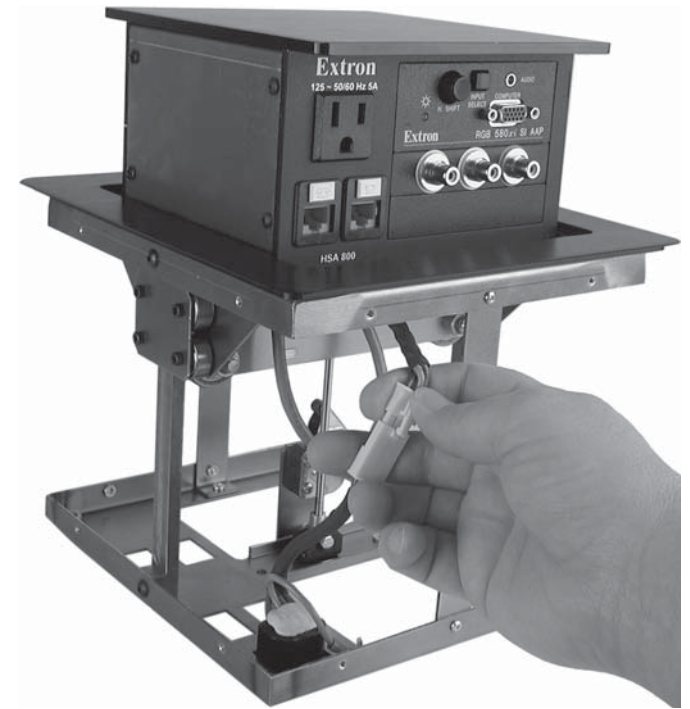

Figure 3-4 — Disconnecting the interior AC cable
7. Disconnect the 3-prong cable connector on the interior AC cable (figure 3-4, page 3-7).